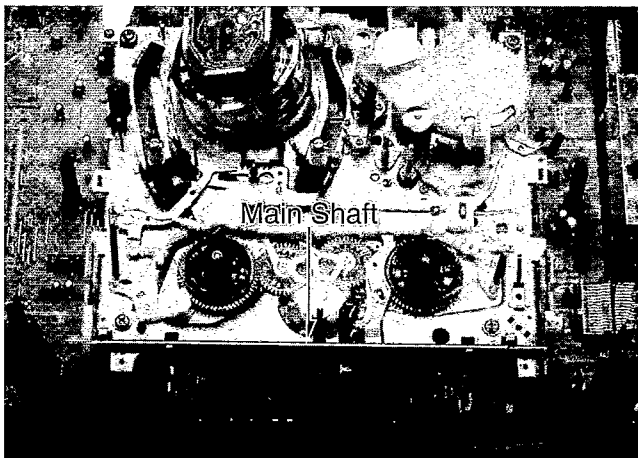

Fig. B6
(5) Remove Main shaft (Fig. B6)